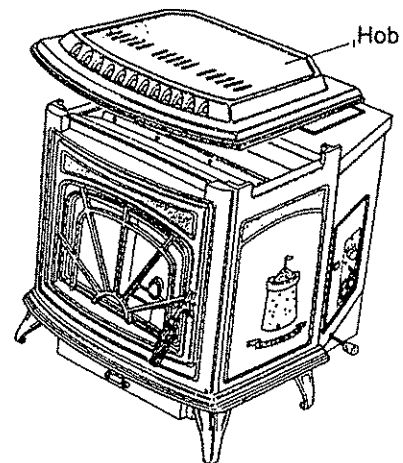

Fig.4
- After removing the packing from around the stove, open the ashpit door/pan (item 5), fire door (item 11), and the hopper feed door (item 40) and remove the contents.
- Remove the loose fitting hob (item 36) and place on a non-abrasive surface. The burn pot and grate must be removed to prevent damage to side bricks during installation. (see fig. 4)